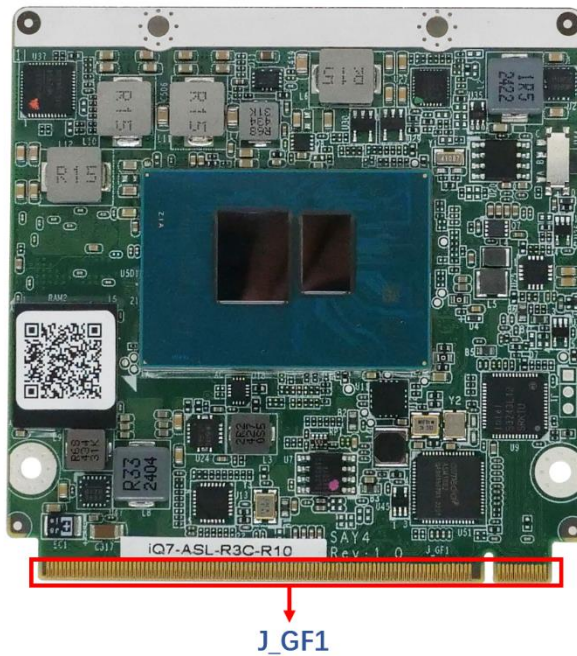

Figure 3-1: Qseven Connector Location
- CN Location:** See Figure 3-1